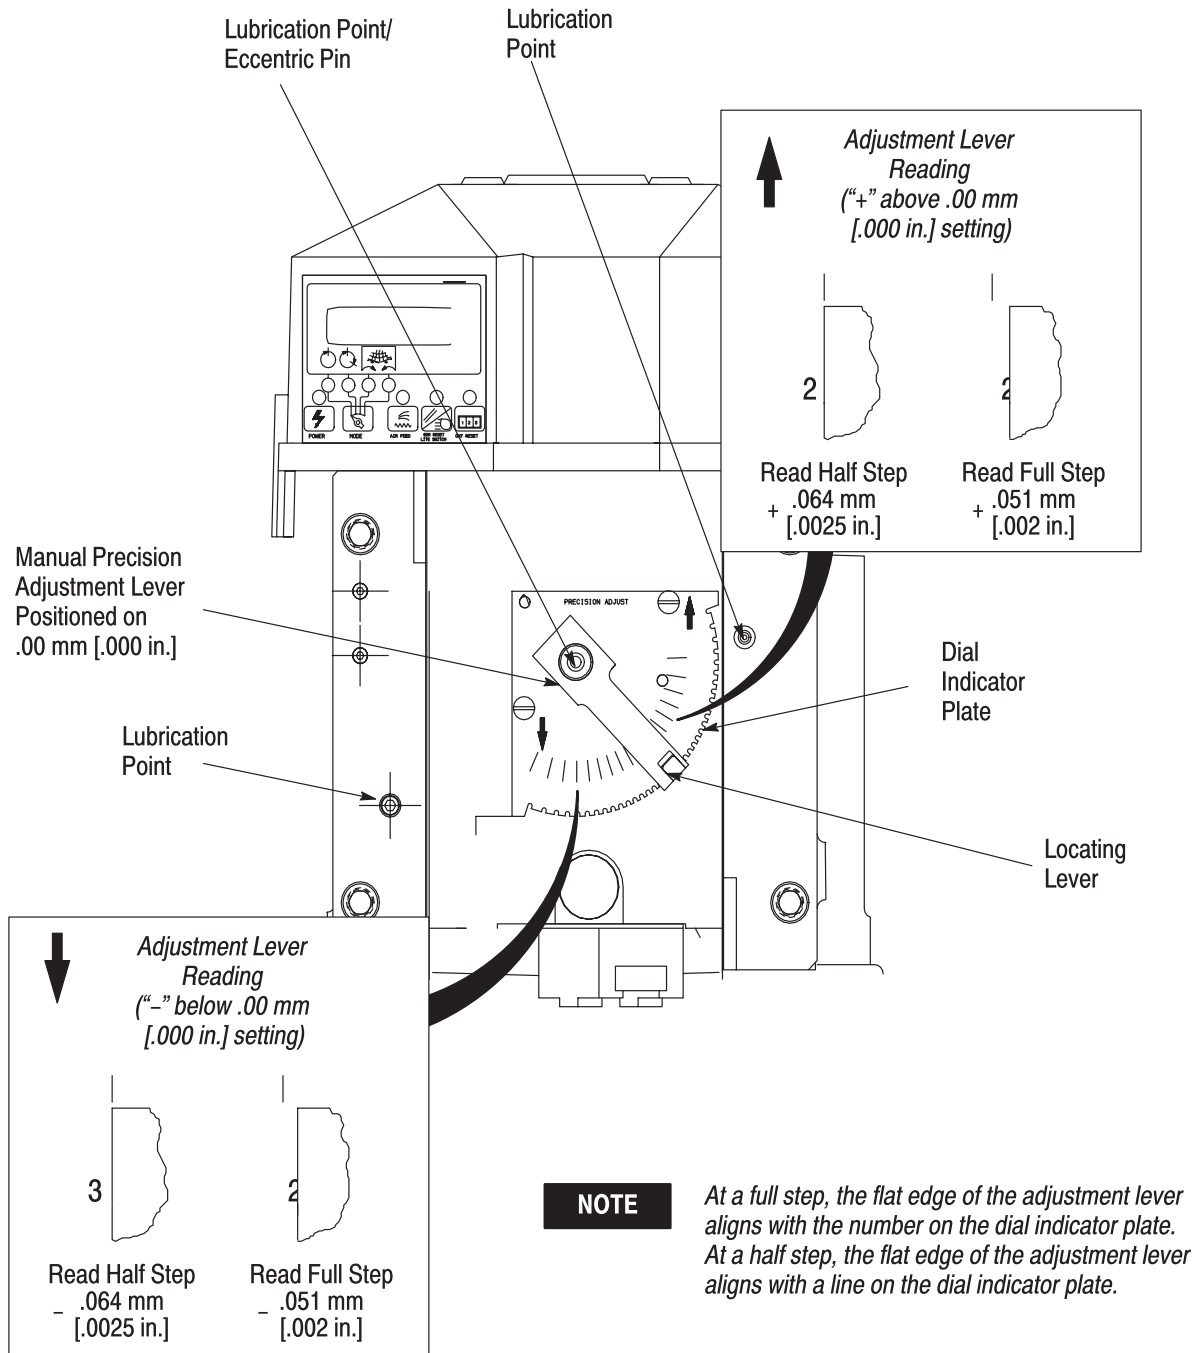

Figure 17
1. Adjust the manual precision adjustment lever to “0” by tilting the locating lever toward the eccentric pin. See Figure 17.